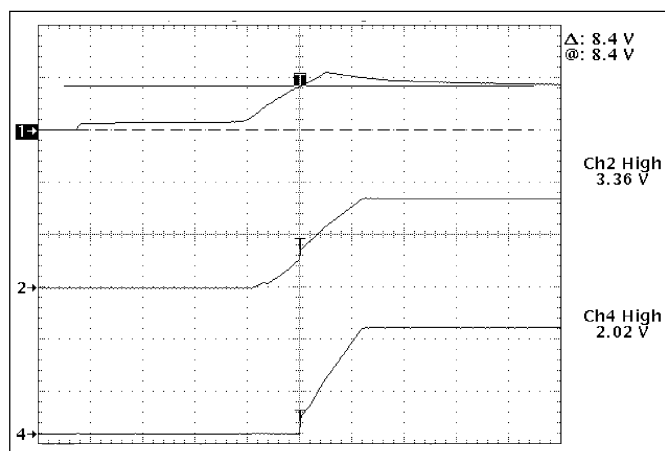

Figure 8: Normal Startup (5ms/div).
GATE(H) and the upper NFET remain on and inductor current ramps up until the initial pulse is terminated by either the PWM control loop or the overcurrent protection. This initial surge of in-rush current minimizes startup time, but avoids overstressing of the regulator's power components. The PWM comparator will terminate the initial pulse if the regulator output exceeds the voltage on the COMP pin plus the 1.1V PWM comparator offset prior to the drop across the current sense resistor exceeding the current limit threshold. In this case, the PWM control loop has achieved regulation and the initial pulse is then followed by a constant off time as programmed by the C_{OFF} capacitor. The COMP capacitor will continue to slowly charge and the regulator output voltage will follow it, less the 1.1V PWM offset, until it achieves the voltage programmed by the DAC's VID input. The Error Amp will then source or sink current to the COMP cap as required to maintain the correct regulator DC output voltage. Since the rate of increase of the COMP pin voltage is typically set much slower than the regulator's slew capability, inrush current, output voltage, and duty cycle all gradually increase from zero. (See Figures 8 and 9).